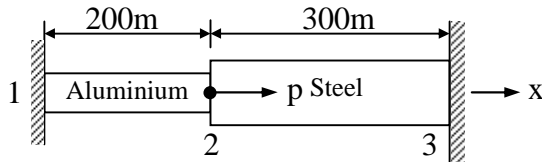

Fig. 1
- b) At 20°C an axial load $P = 300 \times 10^3 \text{ N}$ is applied to the rod as shown in **Fig.1**. The temperature is then raised to 60°C. Assemble the element stiffness matrix and the element temperature force matrix (F). Again determine the nodal displacements and element stresses by considering linear and Quadratic Shape functions. Also find element strains. Assume $E_1 = 70 \times 10^9 \text{ N/m}^2$, $A_1 = 900 \text{ mm}^2$, $\alpha_1 = 23 \times 10^{-6}/^\circ\text{C}$, $E_2 = 200 \times 10^9 \text{ N/m}^2$, $A_2 = 1200 \text{ mm}^2$, $\alpha_2 = 11.7 \times 10^{-6}/^\circ\text{C}$.